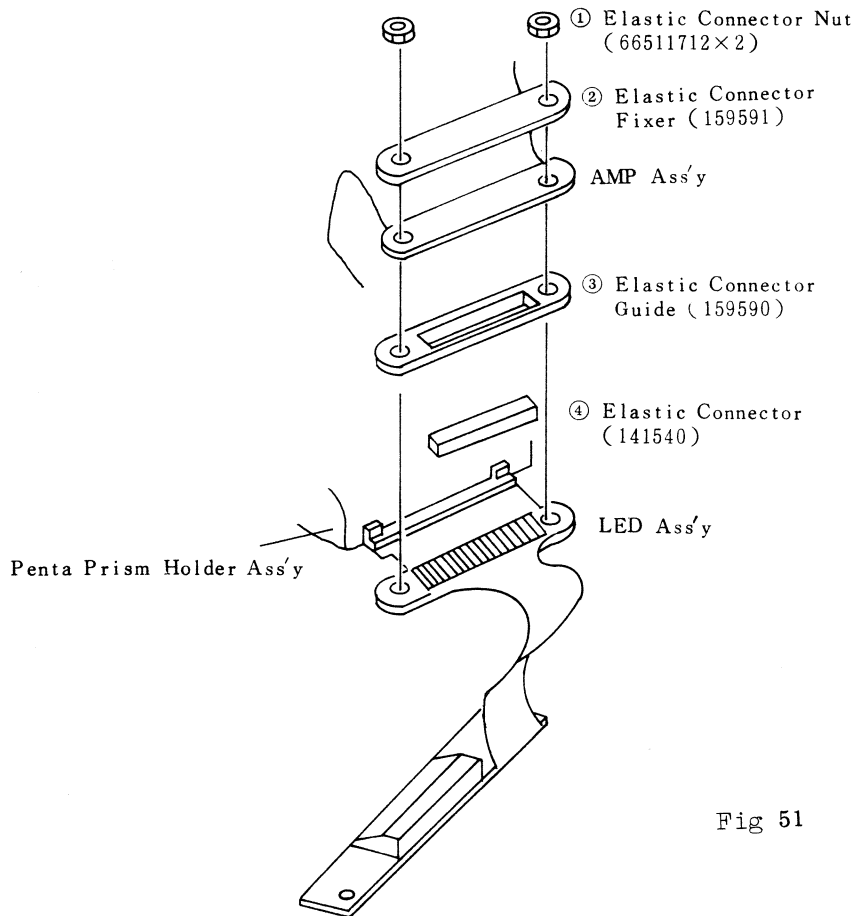

Fig 51
- i) Remove the respective parts ① ~ ④ shown in (Fig 51) in numerical order.